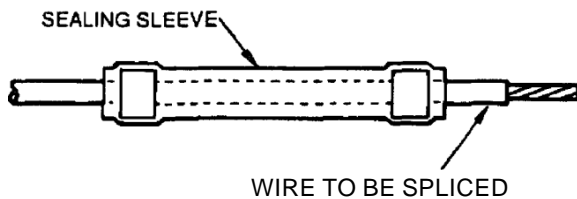

Figure 1. Sealing Sleeve Placed on Wire End.
g. Slide sealing sleeve over one end of stripped wire (Figure 1).